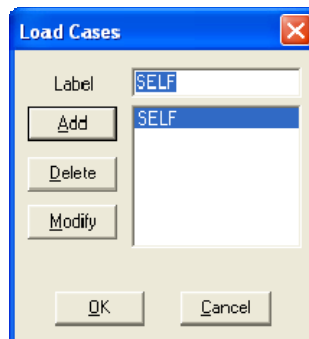

Figure 3-17 Load Cases dialog box
- From the Define menu, select Load Cases. The dialog box of Figure 3-17 appears. Note that the SELF load case is already added to the list box.